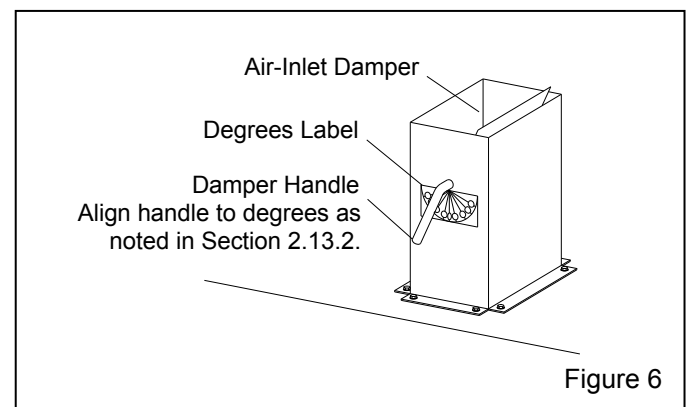

Figure 6
2.13 Cabinet Air-Inlet Damper, Refer to Figure 6